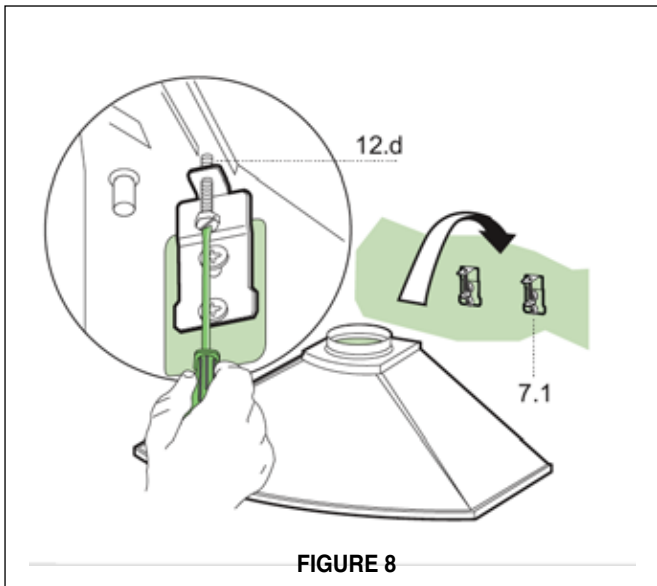

FIGURE 8
4. Hang the canopy on the brackets (**1 in FIGURE 8**). There are two rectangular holes on the rear of the canopy. The brackets pass through these holes and the canopy hangs from the flanges on the brackets. Due to the weight of the canopy, two people should lift it to avoid injuries. Make sure that the canopy is secure on the brackets before releasing.
5. Level the canopy. The height and level of the canopy can be adjusted by rotating the adjustment screws (**12d in FIGURE 8**) on each side of the blower inside the rangehood.